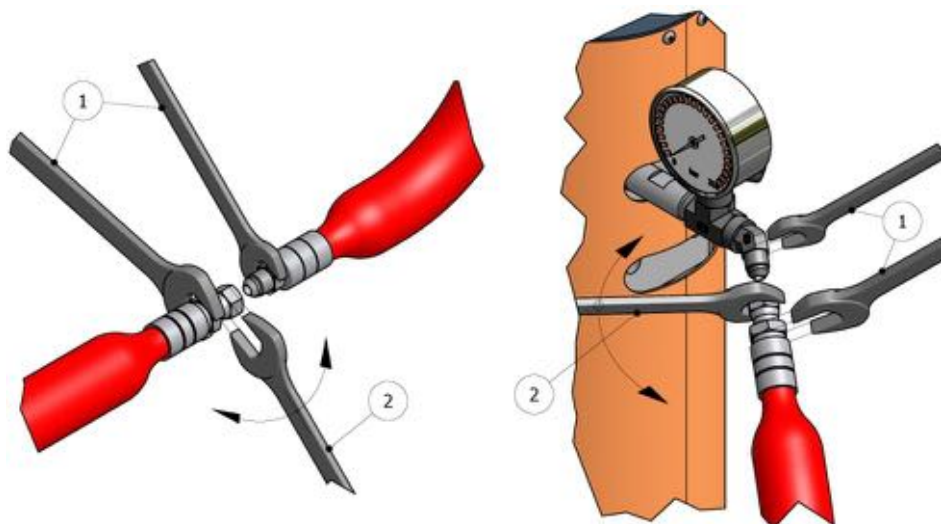

Figure 3. Method of union of the Hoses
WARNING! To join the hoses together or to connect them to the heaters or the gun, use two spanners to hold the parts to be joined (1) and a third spanner to tighten or loosen the connecting nut (2) as shown in the illustrations in Figure 3 on page 14. The connections must be tightened to a torque of 20 Nm.